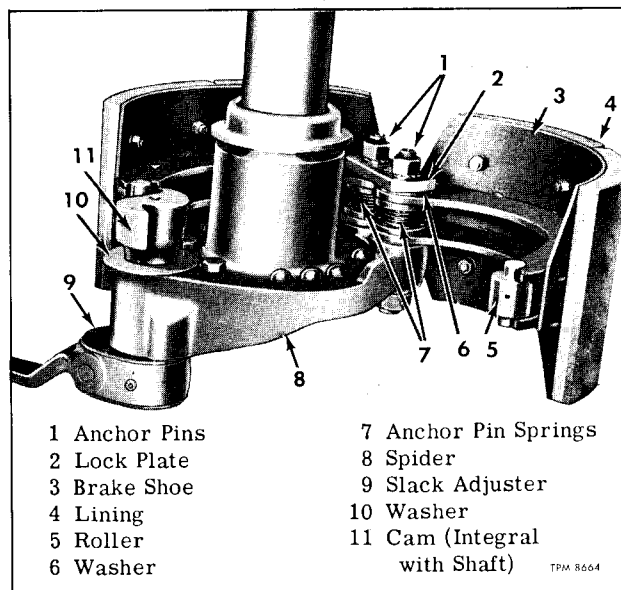

Figure 11—Rear Brake Shoe Anchor Pins Installed
Heel of each brake shoe is attached to anchor pins which are installed in brake spider as shown in figure 11. Shoes are retained on anchor pins by a strap, two tapered dowels, two lock washers, and two nuts. Spacing washers are used as required to provide proper fit of shoe end between spider and strap.
2. Position each brake shoe heel on anchor pins, with anchor pin springs positioned on shoes, as shown in figure 11.